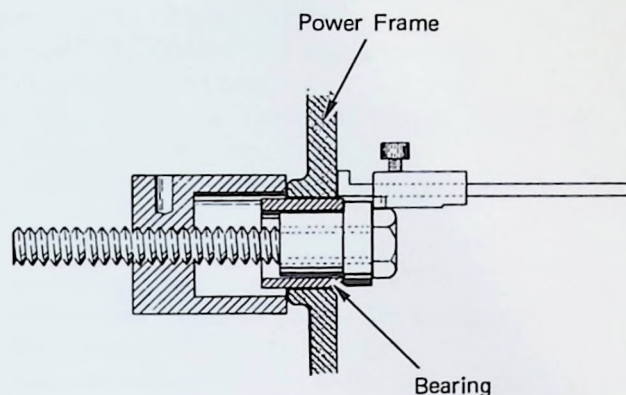

Figure 6 – Center Bearing Removal
6. Install the bearing tool as shown in Fig. 6 Gauge the position of the worn bearing by placing the Hooverometer foot against the power frame and slide the Hooverometer head against the bearing pusher. This setting will be used to reposition the new bearing.
9. Press the new bearing into the power frame until the Hooverometer just spans the distance originally measured in Step 2 (Fig. 6).